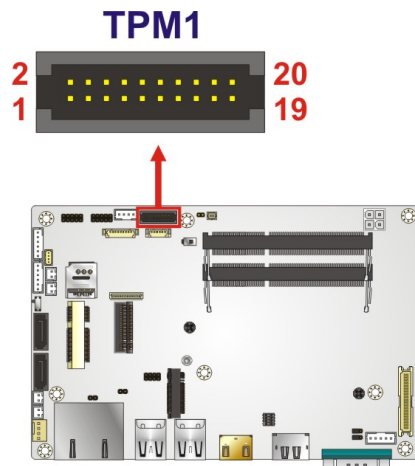

Figure 3-25: TPM Connector Pinout Locations
- CN Location:** See **Figure 3-25**